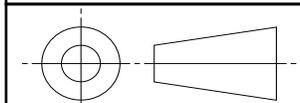

FIGURE 1 - CONCENTRIC TWINAX FINAL ASSEMBLY
3. ONE BOOT SHALL BE PROVIDED WITH EACH ASSEMBLY (FIGURE 1). REPLACEMENT BOOTS MAY BE ORDERED BY THE PART NUMBER SPECIFIED IN TABLE 9.